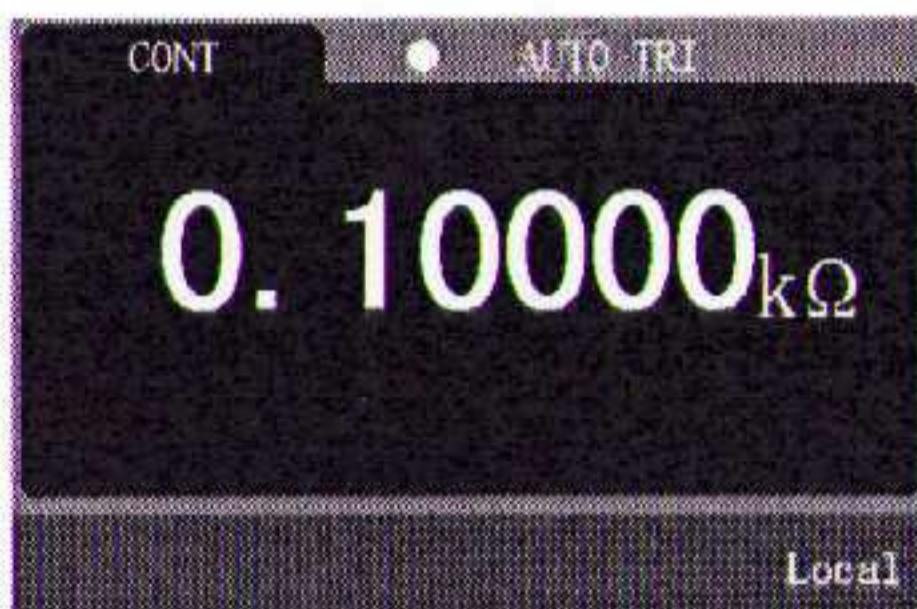

Figure 4-21 Measurement interface
1. In the diode measurement function, press again to select the on-off measurement. The measurement interface is shown in Figure 4-21.